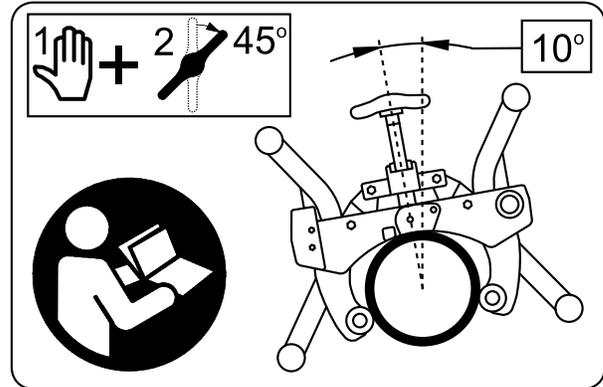

Figure 9 – Pipe Clamp Location
- Place clamp on the pipe with the lead screw at the 10° from vertical position. See Figure 9. Do not place the
- Tighten the clamp screw handle hand tight plus an additional 1/8 turn (45°) to grip the pipe between the clamp wheels. See Figure 9. Make sure that the clamp is secure to the material.